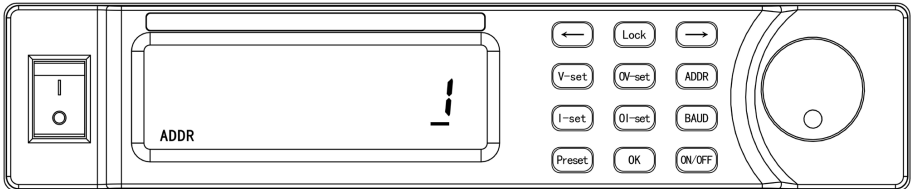

Fig.6-2
- 1) Press ADDR key to enter instrument address setup mode (refer to Fig.6-2).